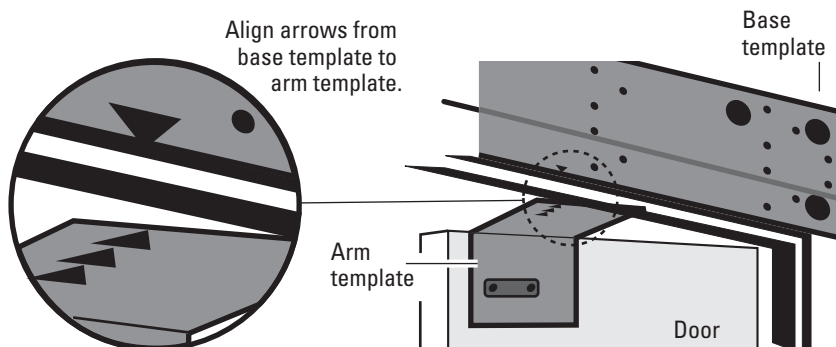

Figure 1.11
7. Peel off the adhesive strips from the back off the Arm Template and carefully place it in position on the door as shown in See Figure 1.11 on page 1-13.. Follow the instructions on the arm template.